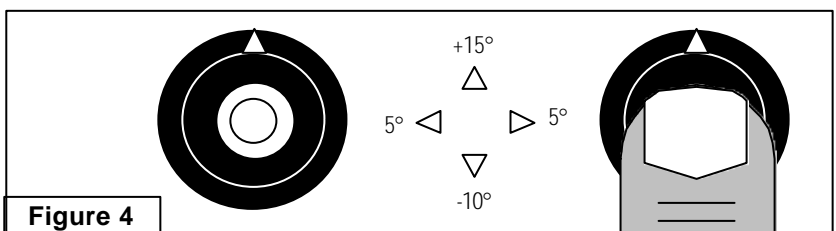

Figure 4
- Ensure that the sensor eyeballs are positioned in the centre of the housing. See Figure 4.